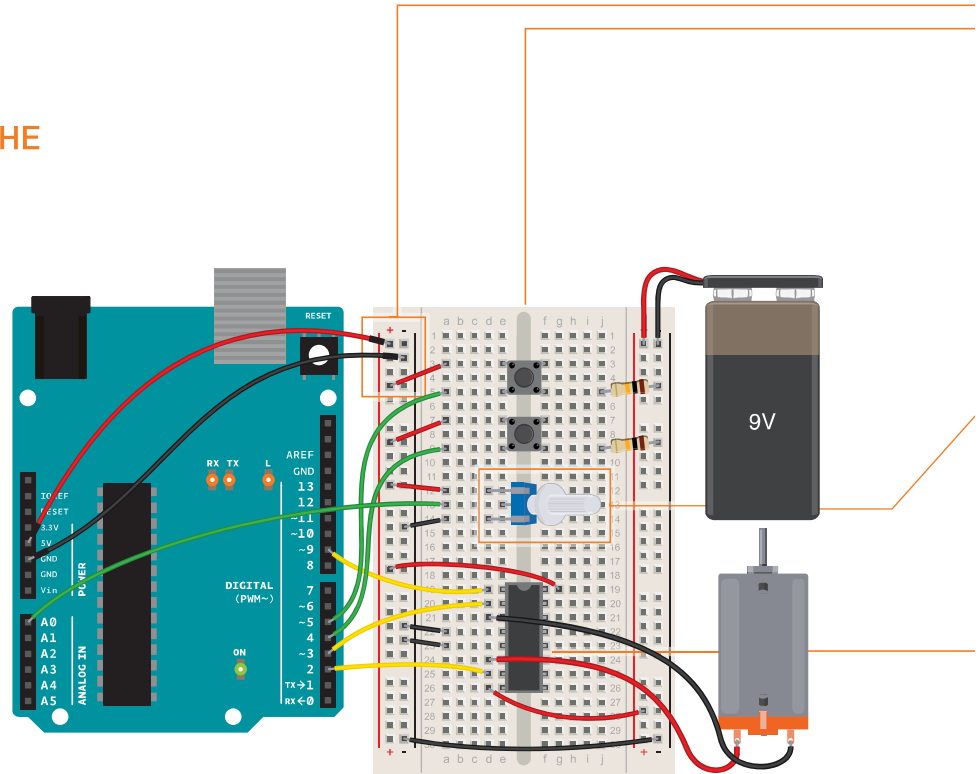

Fig. 2
- 4** Place the H-bridge on your breadboard so it straddles the center (see Fig. 2 for detail of placement). Connect pin 1 of the H-bridge to digital pin 9 on the Arduino. This is the enable pin on the H-bridge. When it receives 5V, it turns the motor on, when it receives 0V, it turns the motor off. You will use this pin to PWM the H-bridge, and adjust the speed of the motor.